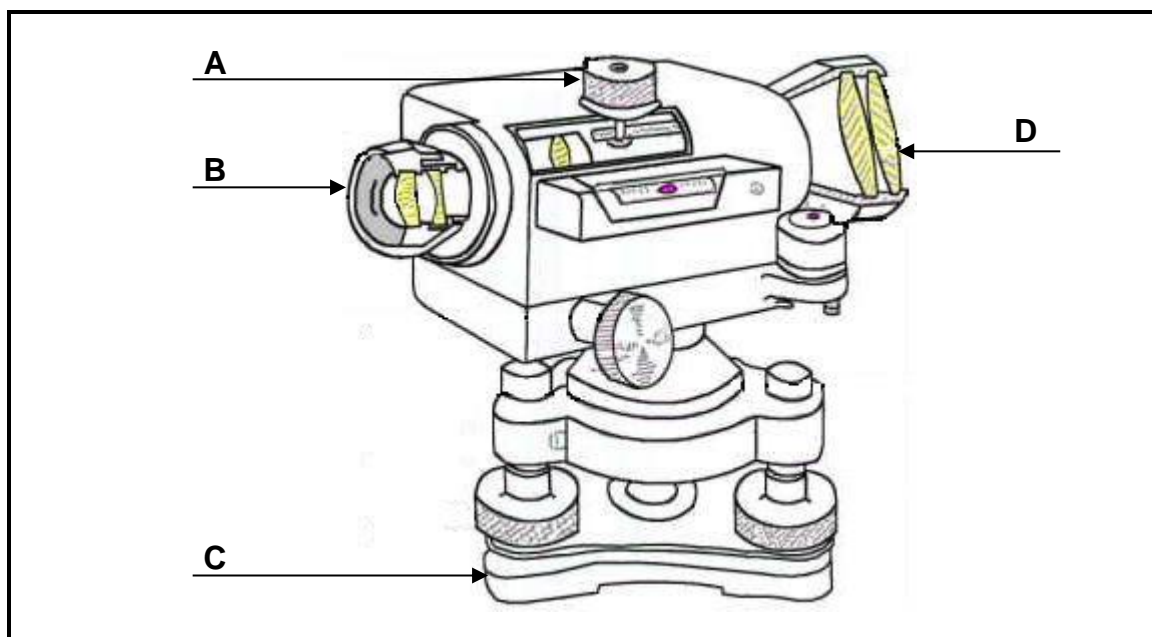

FIGURE 2.4
2.4 Answer the following questions on the tool in FIGURE 2.4.
| 2.4.1 | Identify the tool in FIGURE 2.4. | (1) |